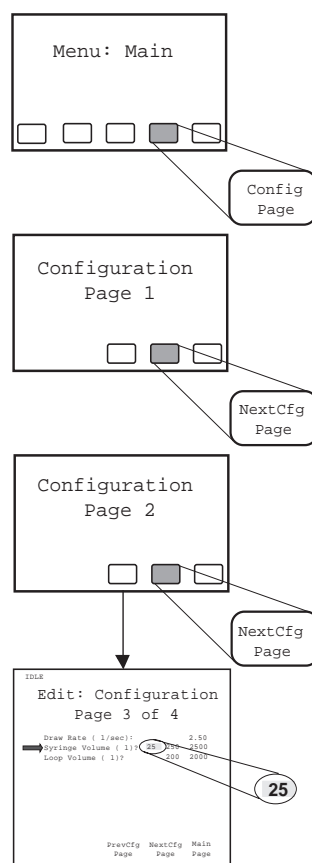

Figure 4-26 Changing Syringe Configuration
2. Enter the hardware change on Configuration Page 3 by pressing the keys indicated in Figure 4-26.